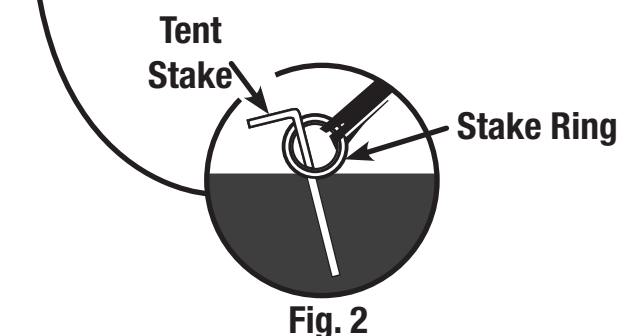

Fig. 2
- Stake down tent corners first through the stake rings. (Fig. 2)